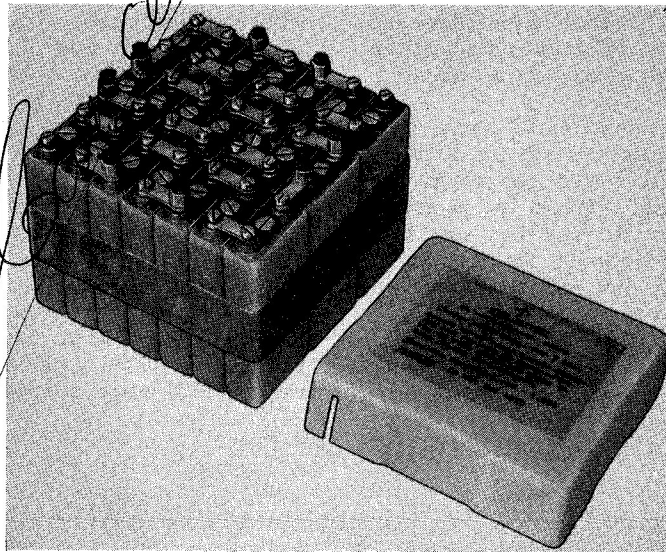

Fig. 1. Battery, 24-volt, 0.4 amp. hr.
2. This battery is illustrated in fig. 1. It consists of 21 cells, each in a polystyrene container, secured together to form a rectangular block. The + and - terminals are at diagonally opposite corners, the cover being slotted to accommodate the connecting leads.